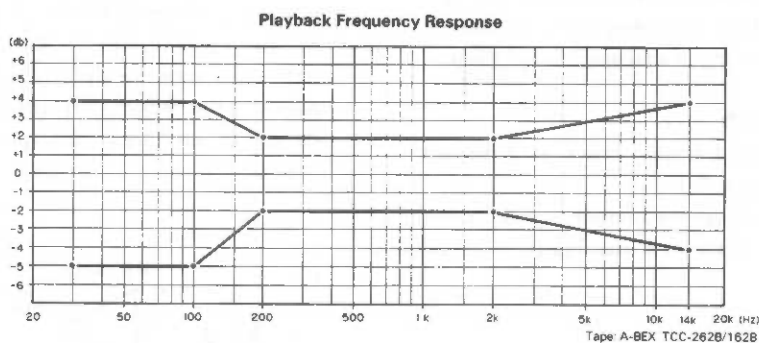
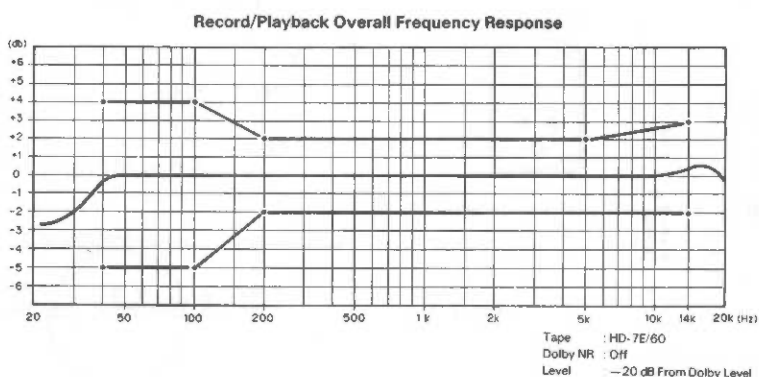

Fig. 4-1
Fig. 4-2
| 1 | PLAYBACK GAIN | A-BEX TCC-130 | Fig. 4-1 | PLAYBACK | A: RT-101 (L) RT-201 (R) B: RT-102 (L) RT-202 (R) | Adjust the LINEOUT output to 775 mV (0 dBs). |
| 2 | P.B. Frequency | A-BEX TCC-162B, 262B | Fig. 4-1 | PLAYBACK | | Make sure the playback characteristics conform to Figure 4-2. |
| 3 | REC/P.B. Frequency | HD7E/60 1 kHz, —40 dB 10 kHz, —40 dB | Fig. 4-2 | REC. PLAY ↓ PLAYBACK | A: RT-401 (L) RT-402 (R) B: RT-403 (L) RT-404 (R) | Record 1 kHz and 10 kHz alternately. Adjust each volume so the 10 kHz playback output is 0.5 dB in relation to the 1 kHz playback output. |
| 4 | REC GAIN | HD7E/60 1 kHz, —30 dB | Fig. 4-2 | REC. PLAY ↓ PLAYBACK | A: RT-140 (L) RT-240 (R) B: RT-150 (L) RT-250 (R) | Adjust each volume to the playback output is the same as when the recording monitor is output. |